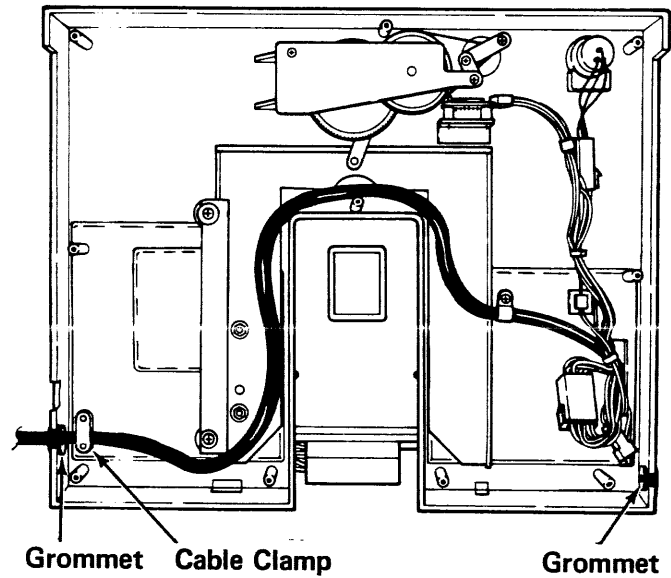
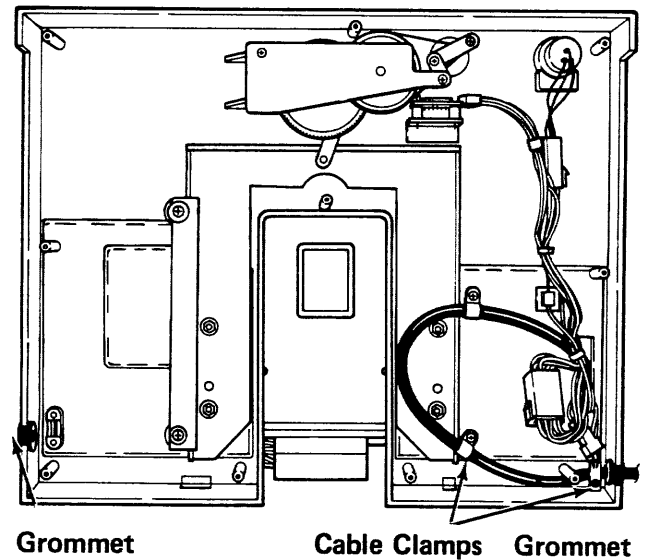

Figure 2-3B
Figure 2-3C
The M-654 is shipped with the interface Harness exiting to the left (Figure 2-3B) to match connections on newer M-7530's and M7540's. Reroute the Interface Harness, if necessary, to the right (Figure 2-3C) for earlier M7530's.
- c. Remove both Cable Clamps (Figure 2-3B).
- d. Pull the Interface Harness out of the Base at the Grommet (Figure 2-3B).
- f. Reroute the Interface Harness to the right as shown in Figure 2-3C.
- g. Reinstall the Cable Clamps (Figure 2-3C).